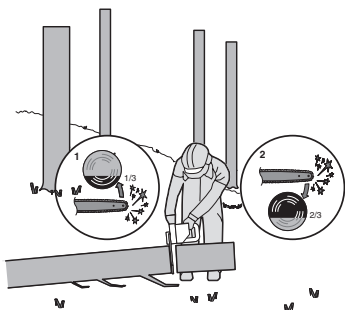

Figure 4
When the log is supported on one end, as illustrated in Figure 4, cut 1/3 the diameter from the underside (underbuck) (1). Then make the finished cut by overbucking (2) to meet the first cut.